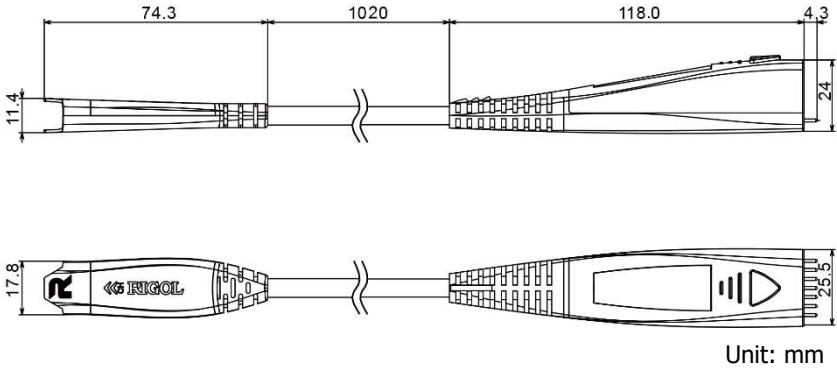

Figure 1 Probe Dimensions
**Figure 1** shows the dimensions of the probe body of PVA8000 series active probe.